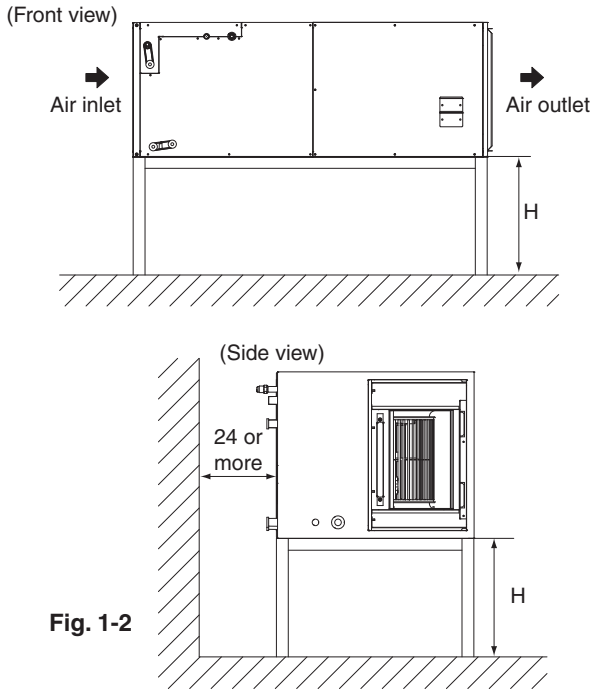

Fig. 1-2
**(1) Select an installation site where the following conditions are fulfilled and that meets with your customer's approval.**
- Where sufficient clearance for maintenance and service can be ensured. **(Refer to Fig. 1-1 and Fig. 1-2)**
• When installing the unit horizontally, be sure to tilt the unit in the direction shown in Fig. 1-2. If the unit is tilted in any other way, water can leak.